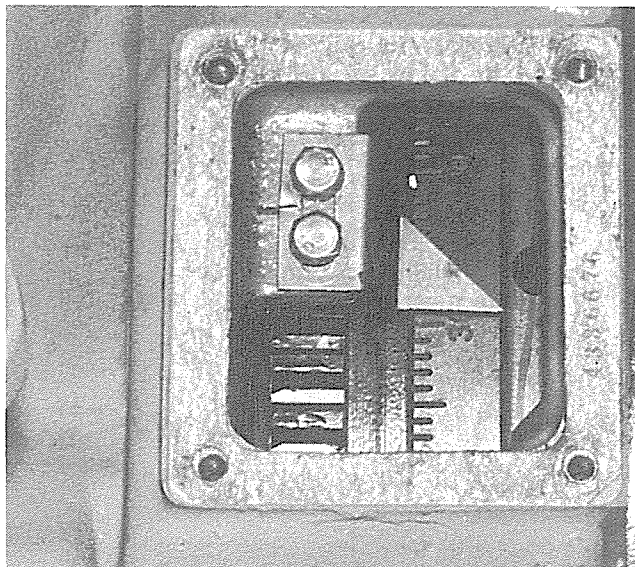

Fig. 5—Timing Mark on Engine Flywheel
3. Continue rotating the flywheel until the timing pointer, Fig. 5, indicates the specified number of degrees B.T.D.C., refer to following table: